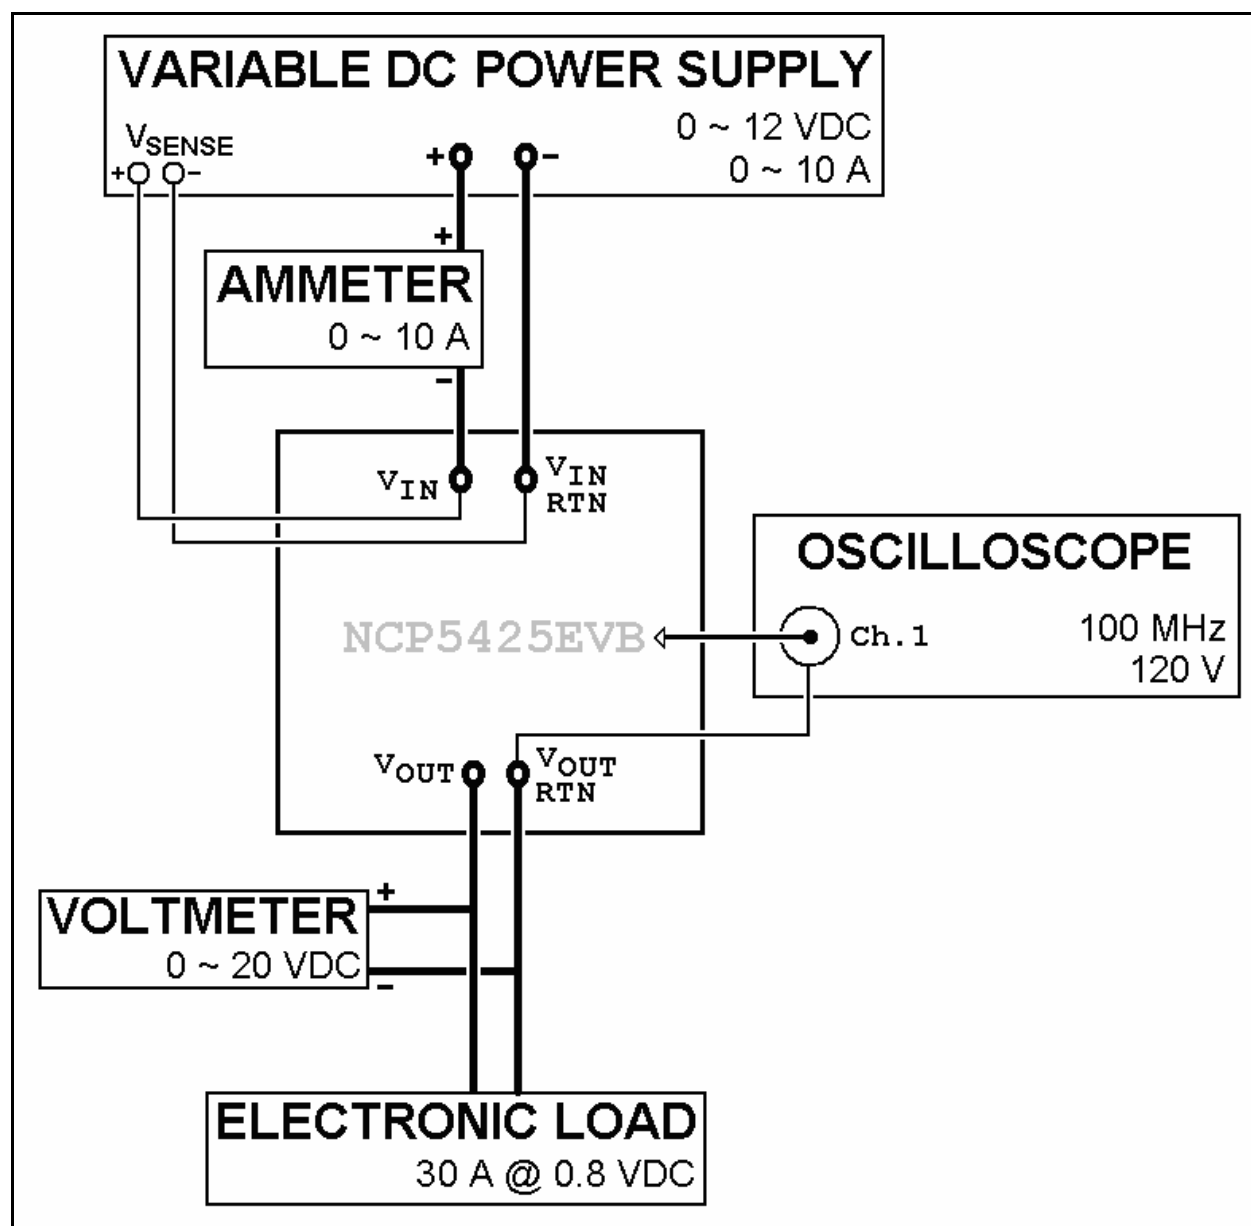

Figure 1. NCP5425EVb Single Output Test Configuration.
- 3.1 Configure equipment as shown in Figure 1.